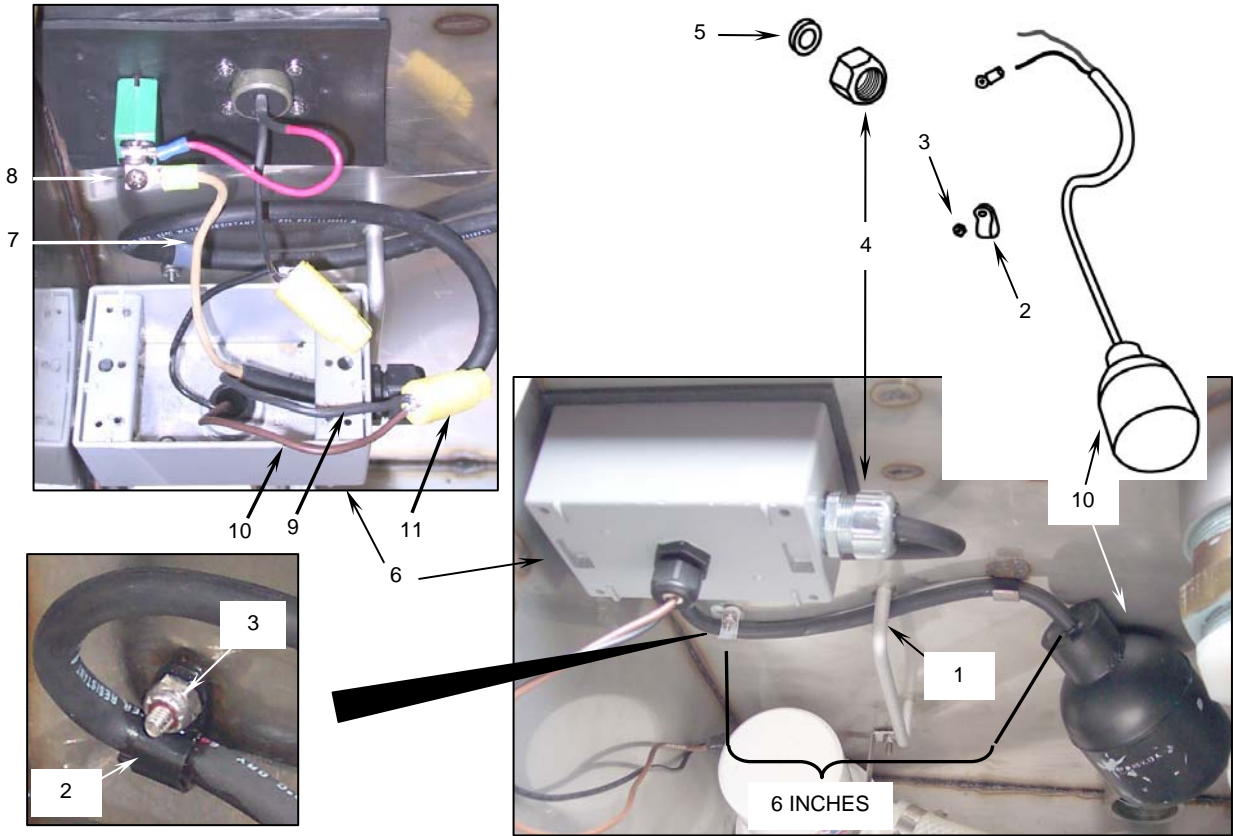

Figure 5. Installing the New Grease Separator Float Switch.
- b. Feed the float switch cable through the float switch guide (**Figure 5, Item 1**).
- c. Secure the cable 6 inches from the float to the wall of the grease separator using the loop strap (**Figure 5, Item 2**) and self-locking nut (**Figure 5, Item 3**).
- d. Slide the new switch cable through the float switch cord connector nut (**Figure 5, Item 4**), the sealing washer (**Figure 5, Item 5**), and the weatherproof box (**Figure 5, Item 6**).
- f. Connect the white float switch wire (**Figure 5, Item 7**) to the circuit breaker terminal (**Figure 5, Item 8**). Coat the connection with corrosion preventative sealant.
- g. Twist the black float switch wire (**Figure 5, Item 9**) together with the brown pump wire (**Figure 5, Item 10**) and secure with a new watertight wire nut (**Figure 5, Item 11**).
- h. Position the sealing washer (**Figure 5, Item 5**) over the connector and tighten the float switch cord connector nut (**Figure 5, Item 4**) onto the connector.